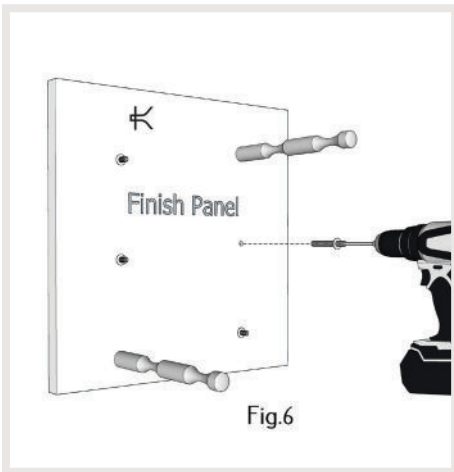

Fig.6
9. Drive the remaining set screws through the decorative panel holes into the structural back-panel leaving 1/2" to 5/8" protruding out of decorative top-panel. **\*Fig6**